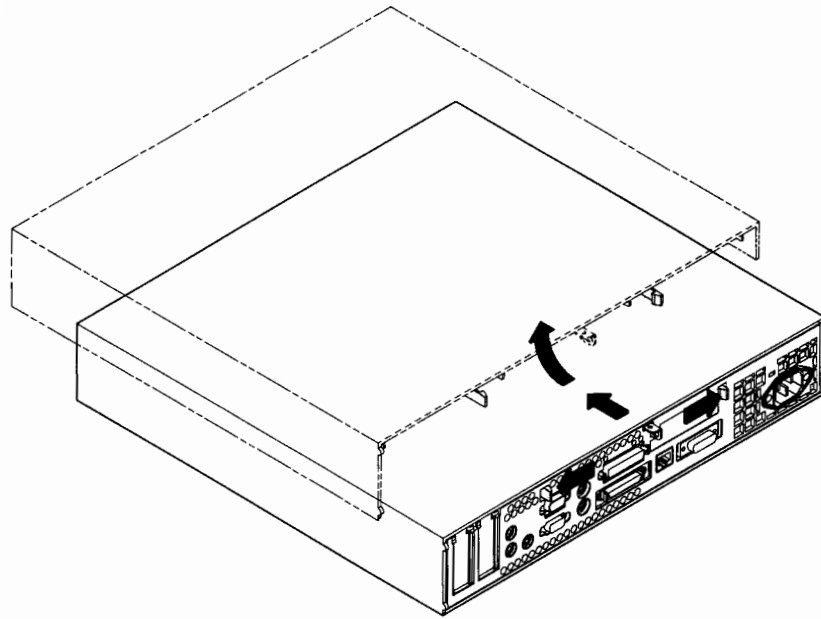

Figure B-2. Opening the System Unit
5. Release the two locking tabs at the rear of the system unit by moving each toward the outside of the system unit, then push them forward until the top cover is released, as shown in Figure B-2.
6. Slide the cover forward an inch or two and then carefully lift it off to open the system unit, as shown in Figure B-2. Set the cover to one side.